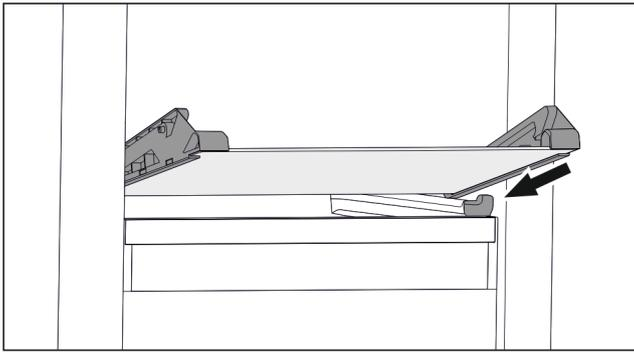

Fig. 62 Tilting drawer glass shelf
- ▶ Position glass shelf at an angle behind the stoppers. (see Fig. 62)